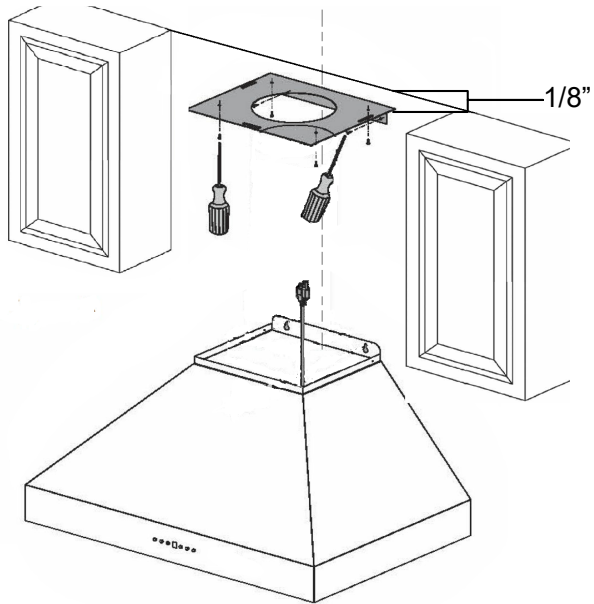

Figure 4.
5. Place chimney mounting brackets on the wall 1/8" from the ceiling or upper limit aligning the center with the vertical reference line. *Figure 4.*
6. Fix the two brackets (Chimney mounting bracket and Decorative frame bracket) using the mounting screws and drywall anchors. *Figure 4.*